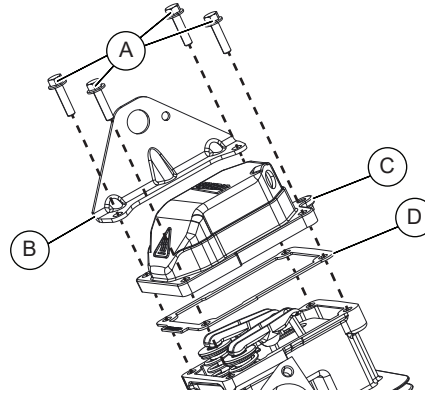

Figure 6-26. Remove Rocker Cover
- See Figure 6-26. Remove the four fasteners (A), lifting bracket (B), and rocker cover (C) from cylinder head.